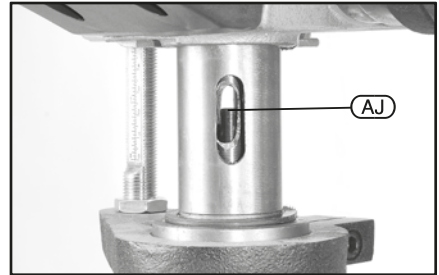

FIG.20
11.2 ARBOR REMOVAL - FIGS. 20 - 21